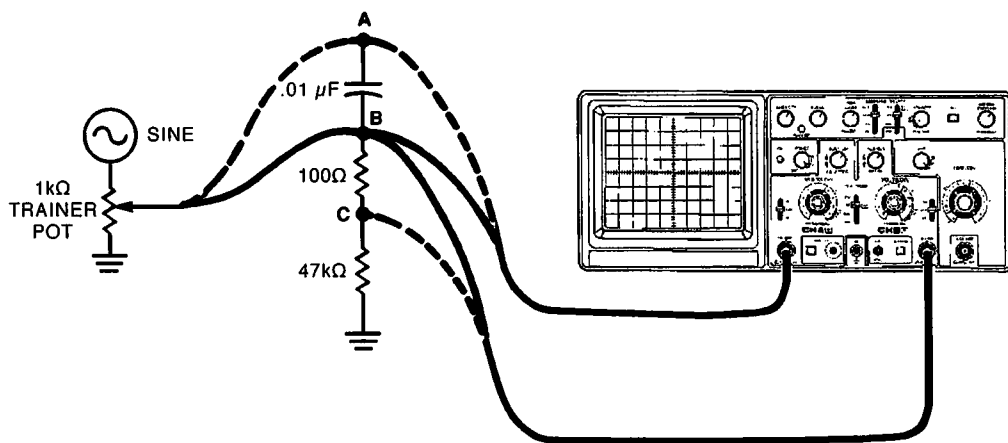

Figure 2-37
28. Construct the circuit shown in Figure 2-37. For now, connect the sine wave generator output, at the wiper arm of the 1 kilohm pot, to point B in the circuit.